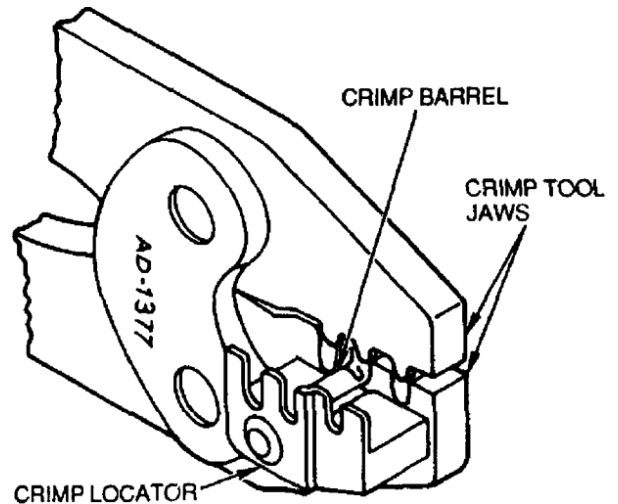

Figure 2. Inserting Crimp Barrel in Crimp Tool, MIL-DTL-22520/37.
i. Insert crimp barrel into correct cavity of crimp tool. For wire gages 12 thru 26, the cavity color code will match the color of the stripe on the crimp barrel. Ensure end of crimp barrel is against stop of tool and inspection hole is visible (Figure 2).
- i. Slide sealing sleeve over one end of stripped wire (Figure 2).